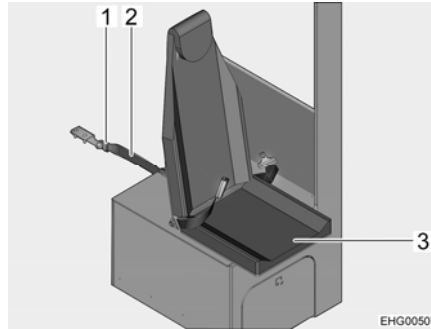

Fig. 37 Securing the attachable seat
- Plug retaining belt (Fig. 37,2) into the seatbelt lock (Fig. 37,1).
- Fold down the seat (Fig. 37,3).